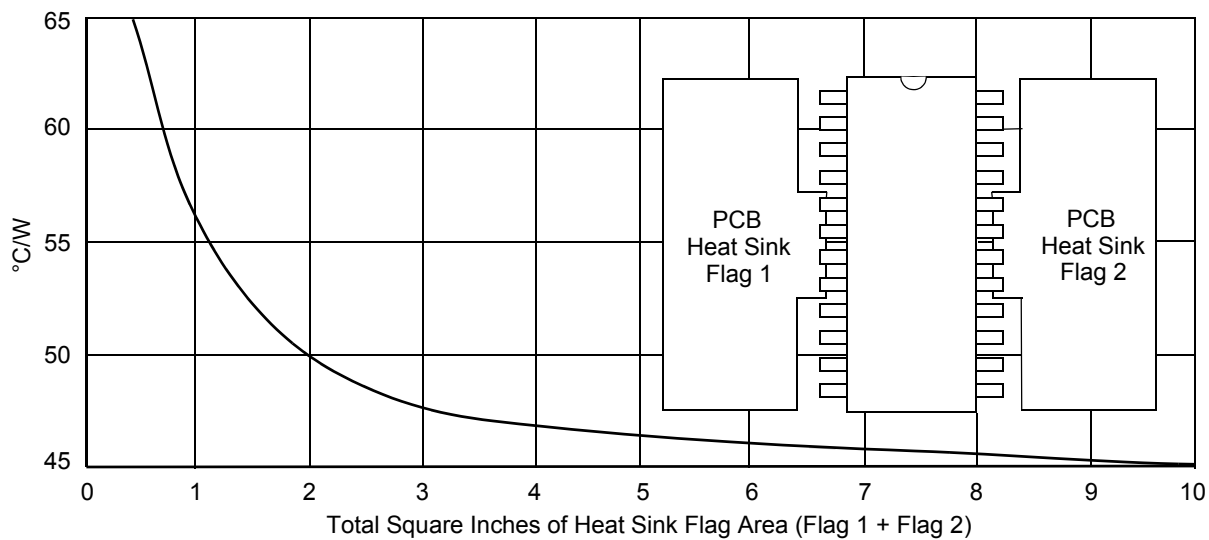

Figure 14. Approximate Thermal Resistance Using PCB Heat Sinking
- Leads 5, 6, 7, 8, 17, 18, 19, and 20 are soldered to a heat-sinking ground plane. See Figure 14.